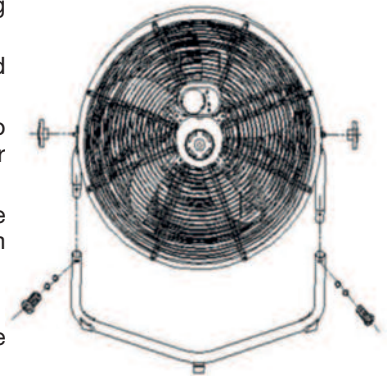

Figure. 1
- 4 Align the screw holes and secure with the screws, lock washers and flat washers from step 1. (See Figure 1)